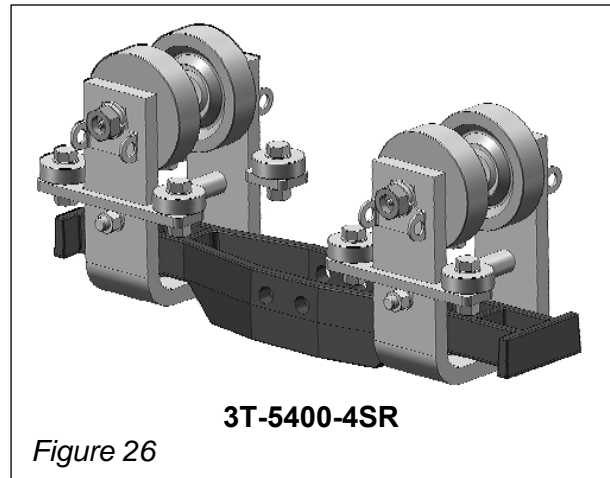

Figure 26
**3T-5400-4SR** Figure 26
Four-wheel trolleys consist of two 2-wheel trolleys, (either 3T-2700-2 or 3T-2700-2SR) coupled with a Load Bar. See example of 3T-5400-4SRE (with Collector Mounting Brackets) shown in Figure 26.
The cast loadbar of these four wheel trolleys has a bumper at each end (see Figure 26 and 27), formed as part of the loadbar. Bumpers contact end stops mounted under the rail riding tread, and bumpers of other trolleys on the rail (prevents wheel-to-wheel contact).